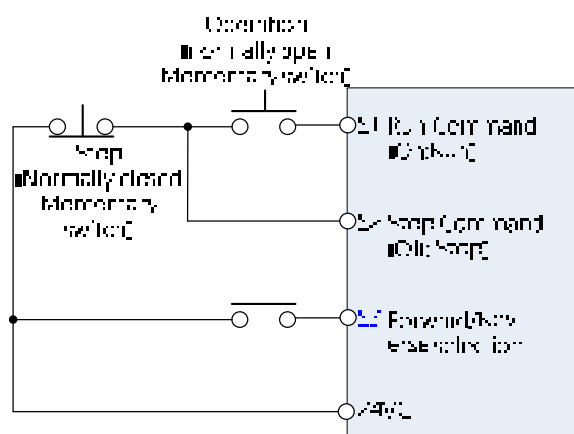

Figure 4.3.2 3 wiring example of 3-wire
- Please refer Fig. 4.3.2 for three wire control mode.
**(3) 00-02=2 : Communication**
**(4) 00-02=3 : PLC**